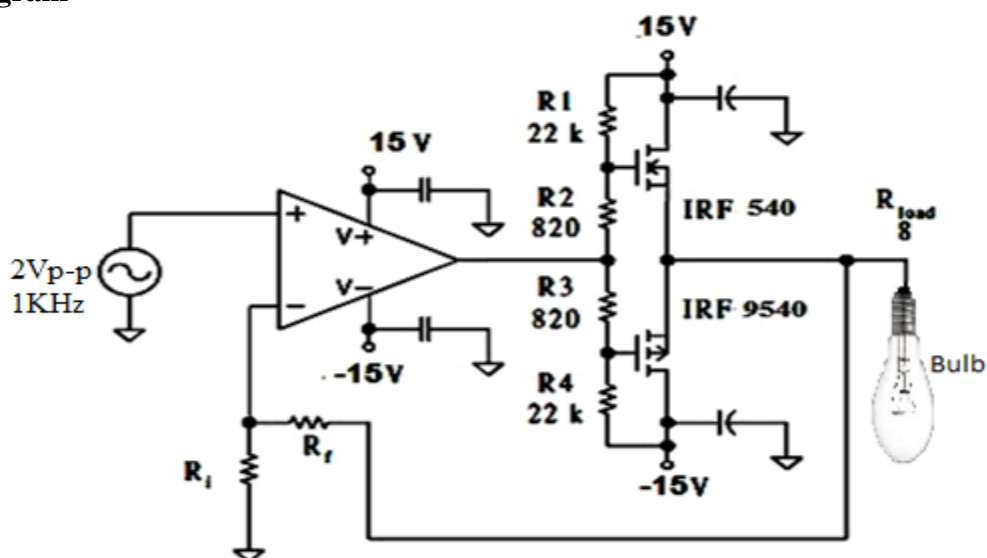

Figure 1. Push-Pull amplifier circuit
1. Build the circuit as shown in Figure 1.